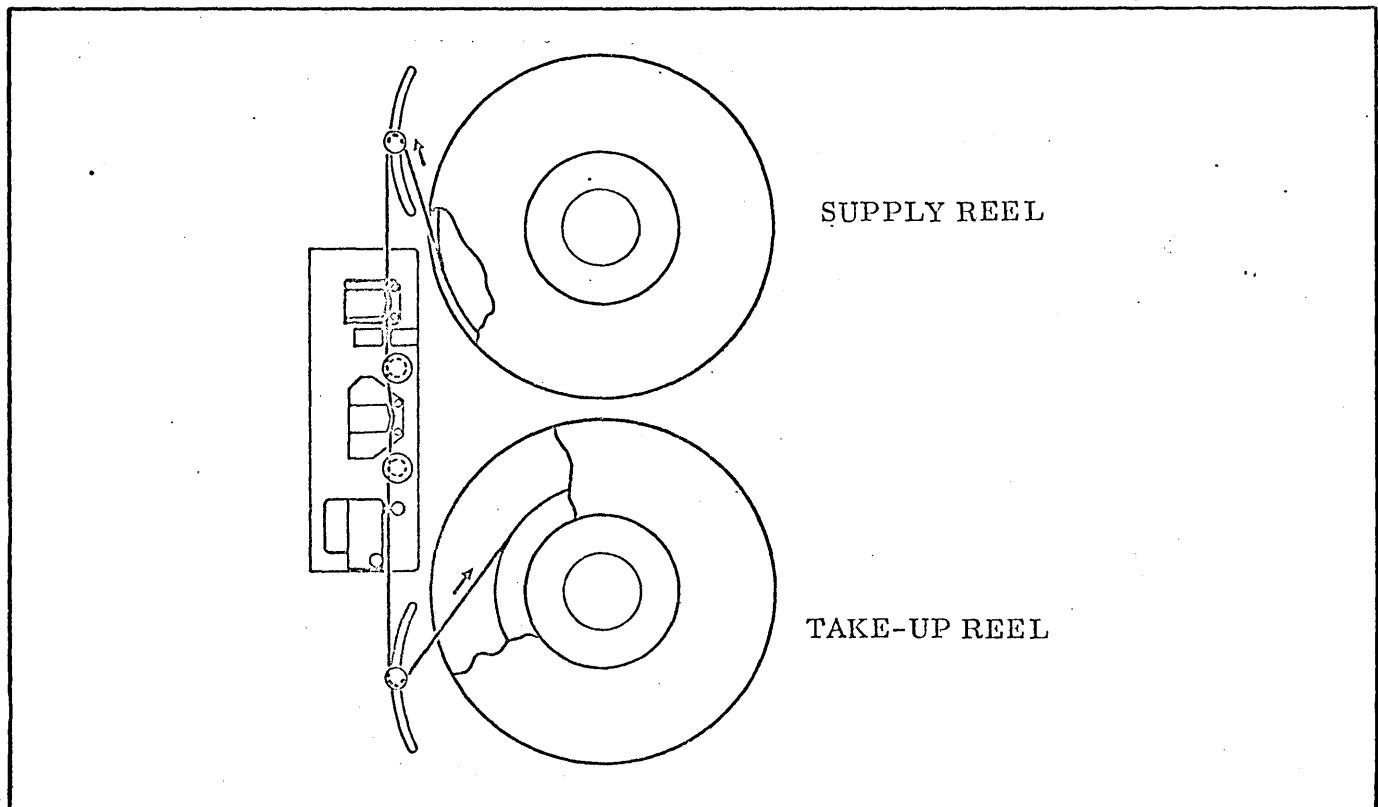

Figure 4-1. Tape Threading Diagram
1. With power off, place a full reel on the supply hub as shown in Figure 4-1.
2. Thread tape along tape path as shown in Figure 4-1 to the take-up reel.